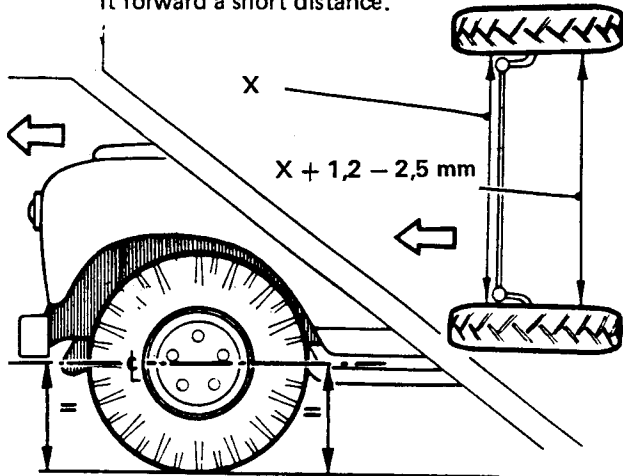

Fig L3.3
- (2) Refer to Fig L3.3. Measure the toe-in, with the aid of a tracking stick or suitable proprietary equipment; it should be 1,2 to 2,5 mm measured at the horizontal centre-line of the road wheels.
- (3) If necessary, adjust the toe-in as detailed below.